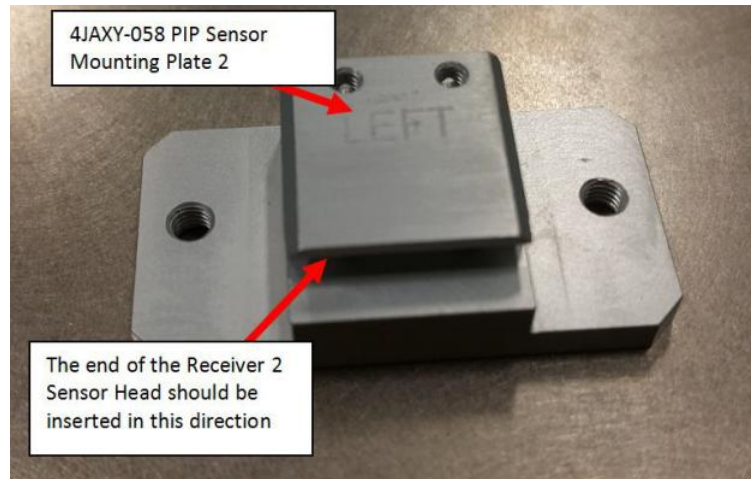

Figure 36 Sensor 2 Receiver Head
1. For Sensor 2 Receiver, insert the tip of Sensor 2 Receiver into 4JAXY-034 PIP Sensor Mounting Plate as shown below in Figure 36.